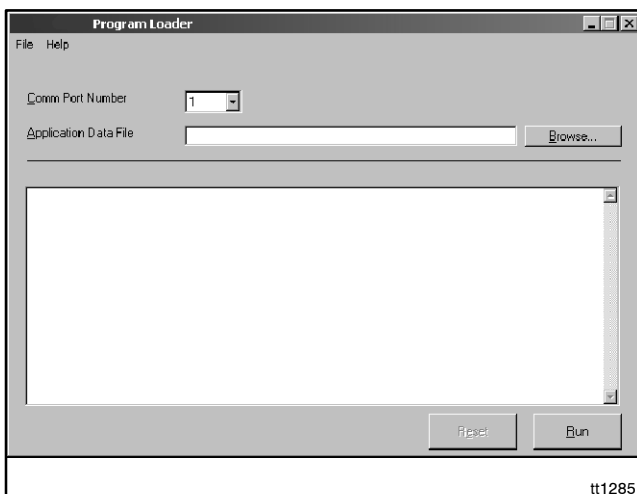

Figure 17 Program Loader Screen
2. Enter the number of the computer's COM port (number 1 through 16) that is connected to the controller through the communication cable. See Figure 17.